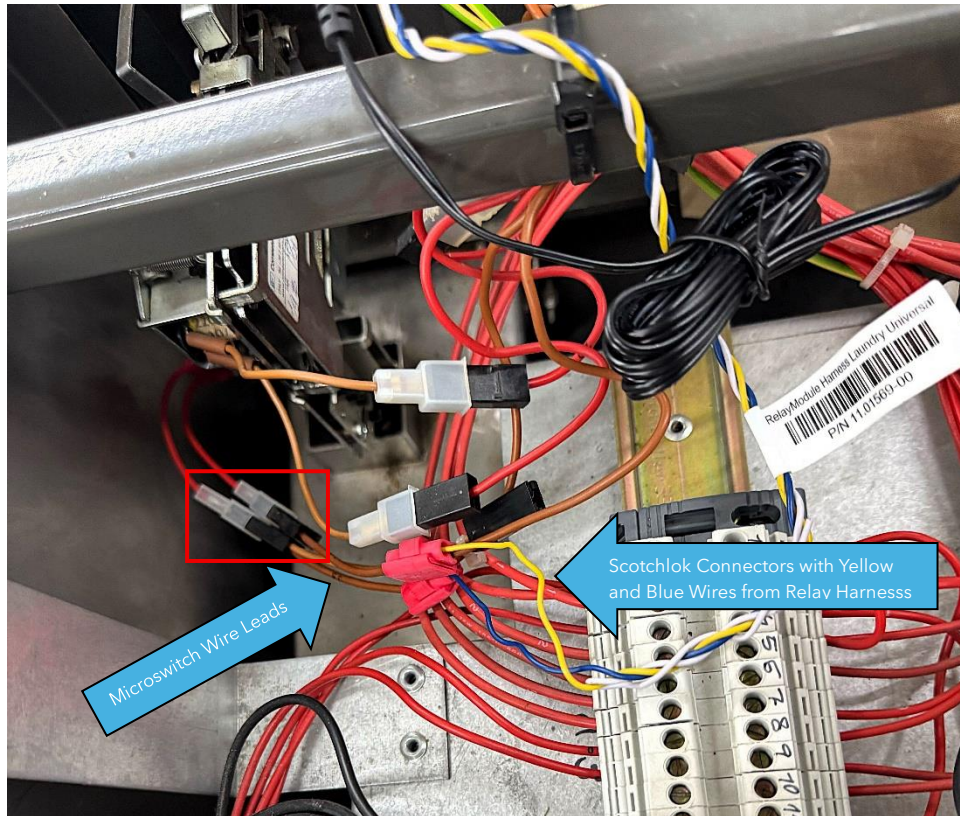

Figure 21
1. Use a Scotchlok to connect the yellow wire (pin 1) from the relay harness to either of the two microswitch wire leads, see **Figure 21**.